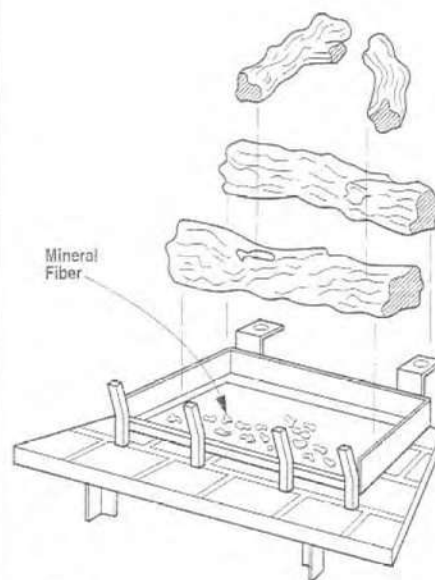

Figure 35
Carefully position and center the fiber logs onto the burner with the longer log in front. Place the two (2) smaller fiber logs across the two (2) lower logs in the manner illustrated (Figure 35). The flames should not impinge on the logs.